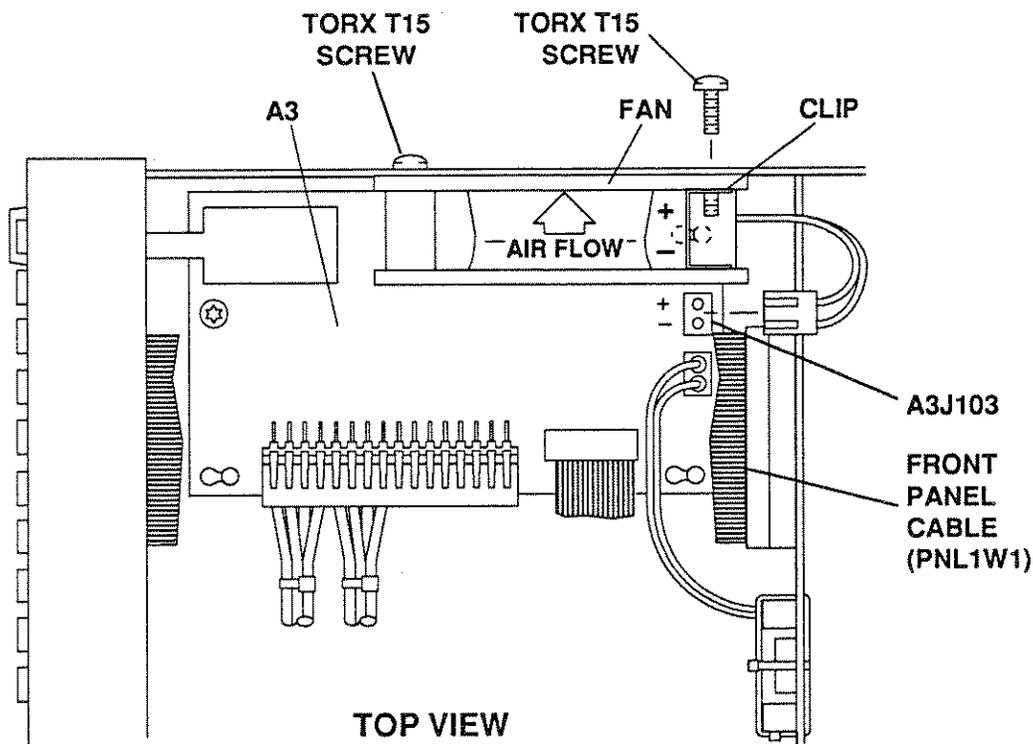

Figure 8-9. Remove and Replace B1 Fan Assembly
2. Disconnect the following wires/cables (see Figure 8-9):